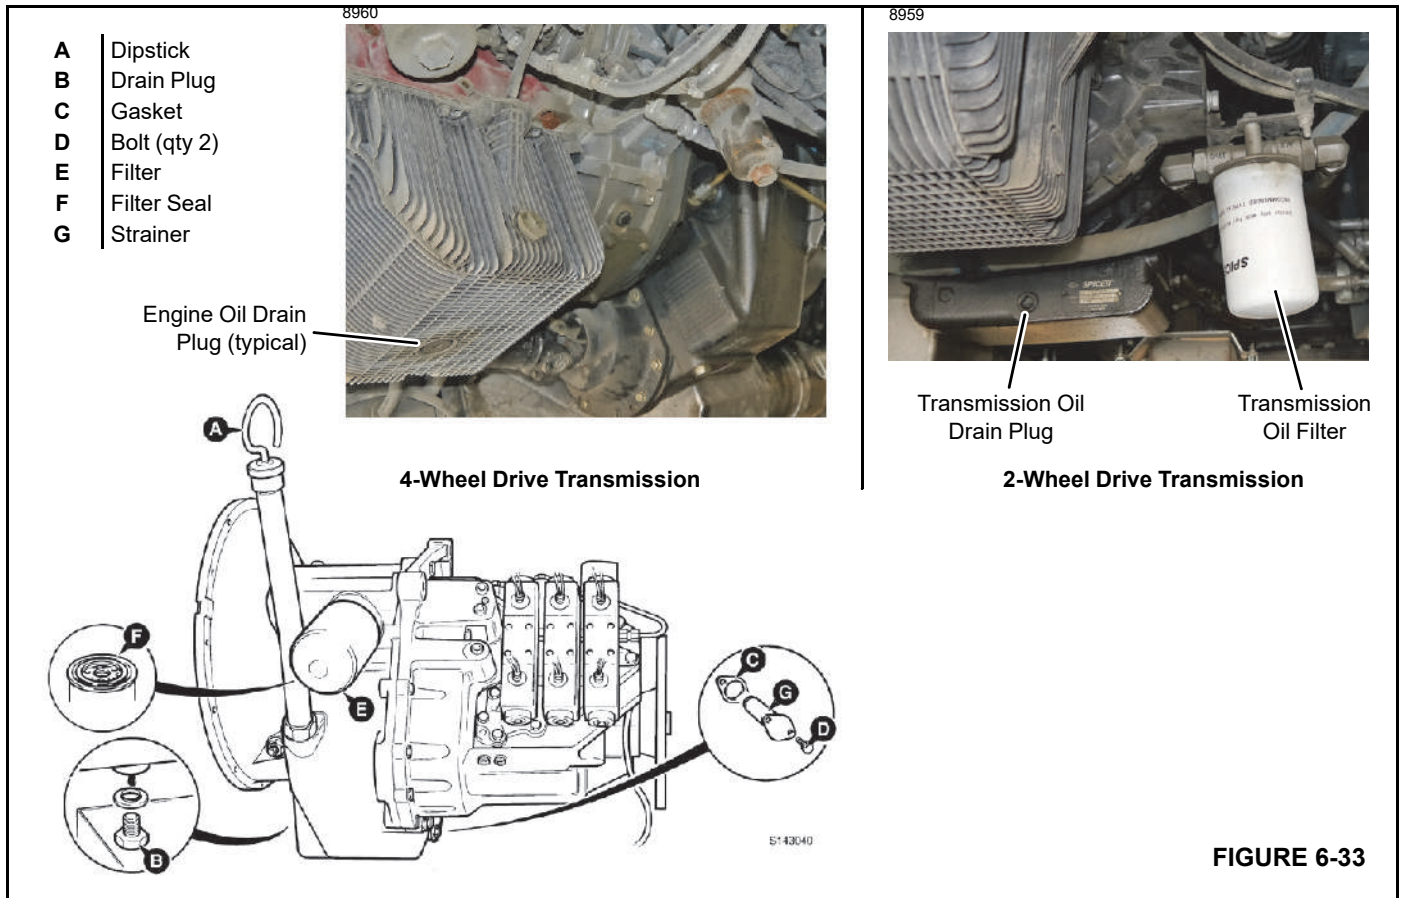

FIGURE 6-33
**NOTE:** It is necessary to climb under the crane to drain the transmission oil (Figure 6-33). Be sure the parking brake is engaged, the engine is off, the ignition key is removed, and chock blocks are in place before climbing under the crane.